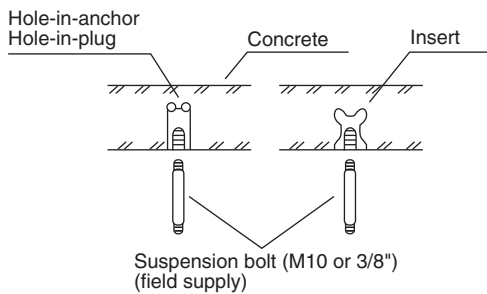
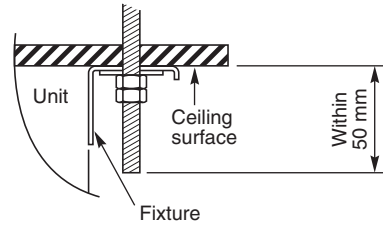

Fig. 3-17
Fig. 3-19
- Insert suspension bolts (Fig. 3-17).
- Screw in the suspension bolts, allowing them to protrude from the ceiling (Figs. 3-17 and 3-18). The distance of each exposed bolt must be of equal length within 50 mm. (Fig. 3-19)